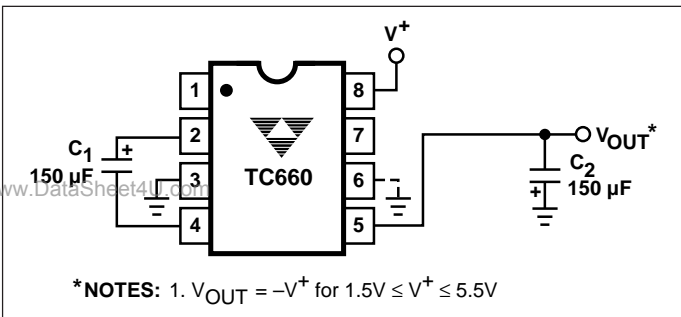
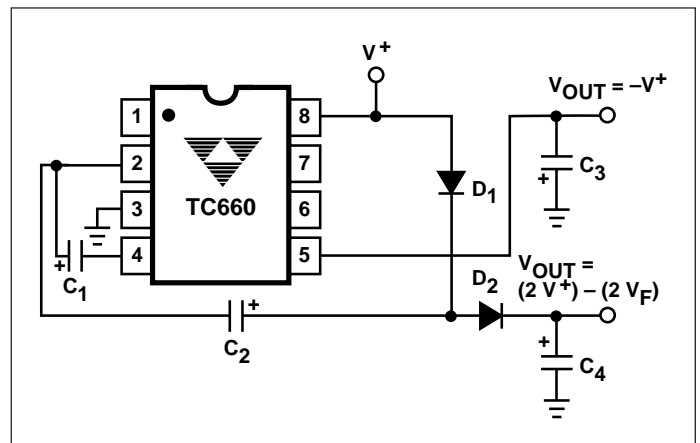

Figure 3. Simple Negative Converter
Figure 10. Combined Negative Converter and Positive Multiplier
Figure 3 shows typical connections to provide a negative supply where a positive supply is available. A similar scheme may be employed for supply voltages anywhere in the operating range of +1.5V to +5.5V, keeping in mind that pin 6 (LV) is tied to the supply negative (GND) only for supply voltages below 3.0V.
The output characteristics of the circuit in Figure 3 are those of a nearly ideal voltage source in series with 6.5Ω . Thus, for a load current of $-100mA$ and a supply voltage of +5V, the output voltage would be $-4.35V$.
Figure 10 combines the functions shown in Figures 3 and 8 to provide negative voltage conversion and positive voltage multiplication simultaneously. In this instance, capacitors C1 and C3 perform the pump and reservoir functions, respectively, for the generation of the negative voltage, while capacitors C2 and C4 are pump and reservoir, respectively, for the multiplied positive voltage. There is a penalty in this configuration in that the source impedances of the generated supplies will be somewhat higher due to the finite impedance of the common charge pump driver at pin 2 of the device.